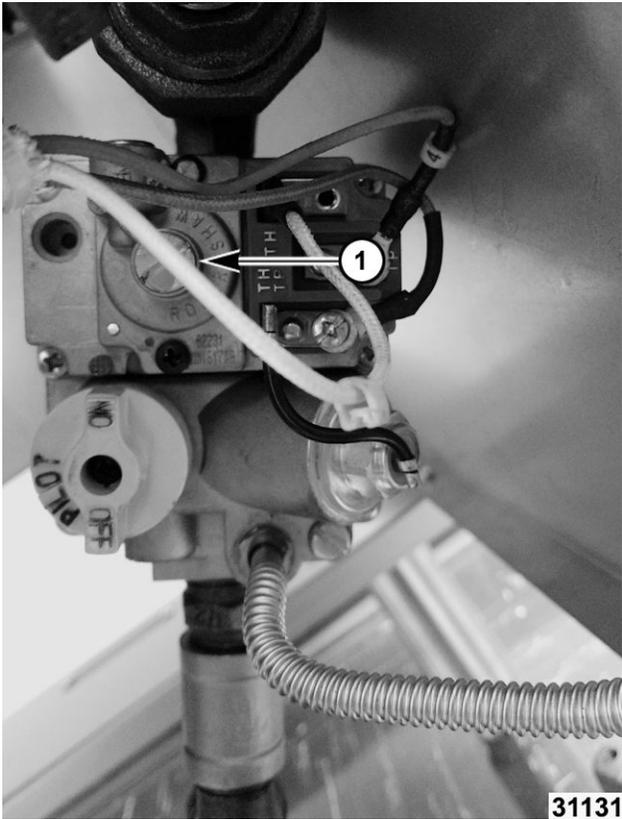

Fig. 39
- Turn adjustment screw (1, Fig. 39):